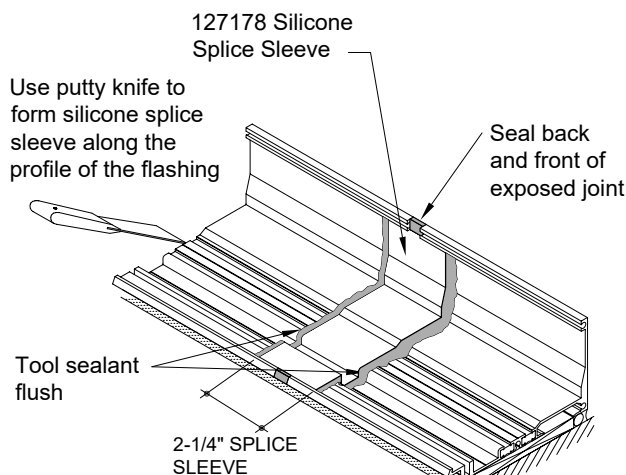

FIGURE 4
7. Center the Splice Sleeve over the joint. Then, using a putty knife, form the Splice Sleeve along the profile of the flashing. (Figure 4)
8. Silicone will squeeze out from under the Splice Sleeve. Use putty knife to tool excess silicone over edges of Splice Sleeve. (Figure 4)
9. Seal back and front exposed joint. Be sure to force sealant up under the Splice Sleeve in front. Seal the exposed joint. (Figure 4)